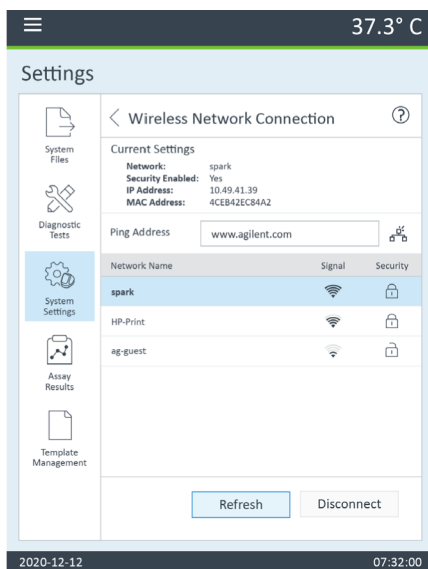

Figure 32. Example wireless network selection table.
- 3 Click the right arrow (bottom right) once to access the Wireless Network Connection Settings screen shown in **Figure 32** on page 56.